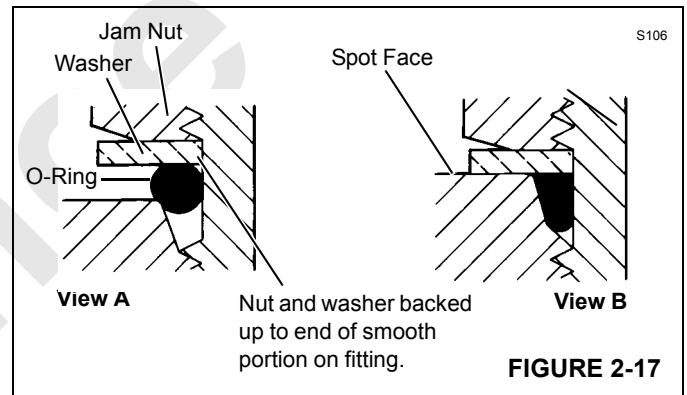

FIGURE 2-17
1. Back up jam nut and washer to end of smooth portion on fitting as shown in Figure 2-17, View A.
3. Thread fitting into port until washer bottoms against spot face as shown in Figure 2-17, View B.
4. Tighten jam nut. When fitting is properly installed, O-ring will completely fill seal cavity and washer will be tight against spot face as shown in Figure 2-17, View B.